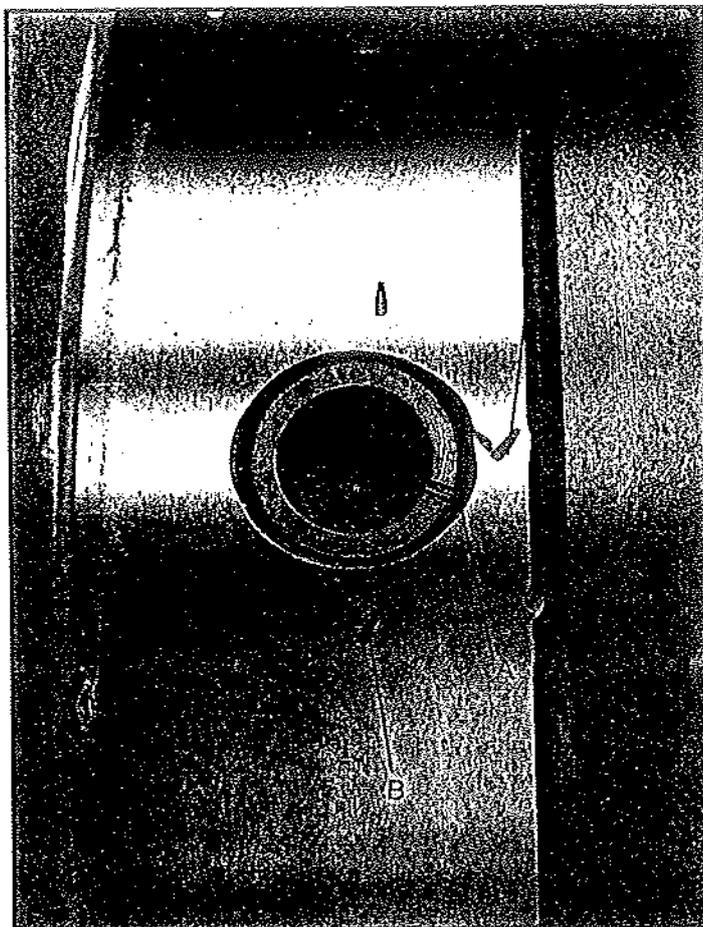

Fig. 3
6. Lift the chuck up to the spindle nose and press onto the spindle. Tighten in place by turning the cam locks 1/4 turn clockwise. The index mark (A, Fig. 3) on the camlock should be between the two indicator arrows (B, Fig. 3). If the index mark is not between the two arrows, remove the chuck and adjust the camlock studs by either turning out one full turn (if cams will not engage) or turning in one full turn (if cams turn beyond indicator marks).